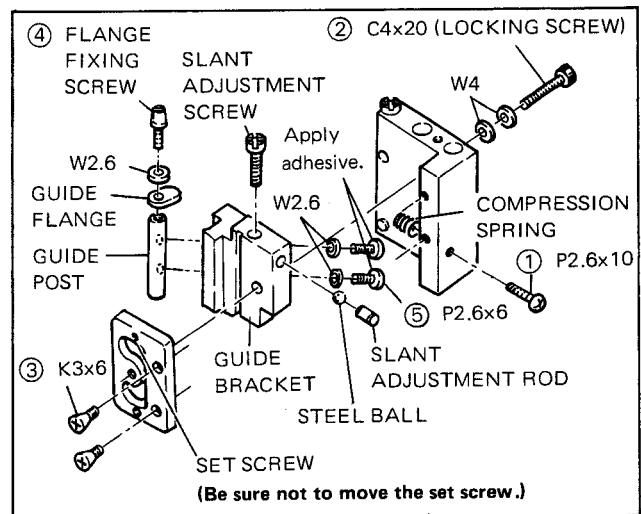

Fig. 6-29. Disassembly of Exit Slant Guide
3. Remove the following parts (see Fig. 6-29).
- a. Loosen the screw ① and remove the compression spring.
- b. Remove the screws ② and ③ and take off the guide bracket.
- c. Remove the flange fixing screw ④.
- d. Remove the two screws ⑤ and remove the guide post from the guide bracket.
11. Reassemble the guide referring to Fig. 6-29, but the C4×20 locking screw should not be tightened firmly.
14. Tighten the C4×20 locking screw firmly (see Fig. 6-29).